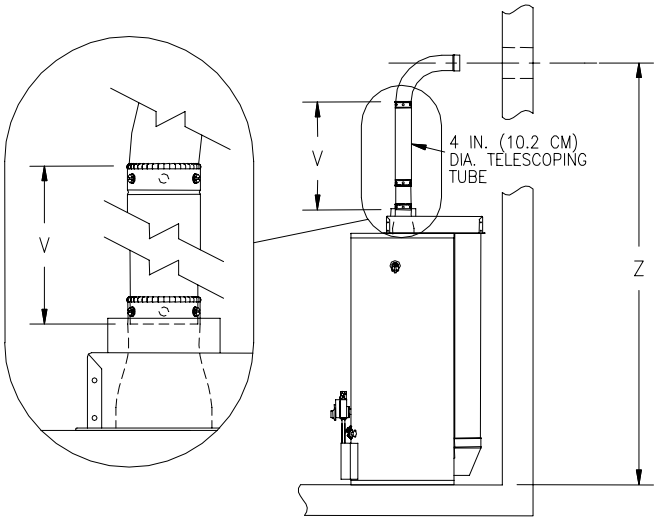

Figure 3
2. Use one of the following formulas below to calculate the required length of the four (4) inch (10.2 cm) diameter telescopic tube(s). (See Figure 3).